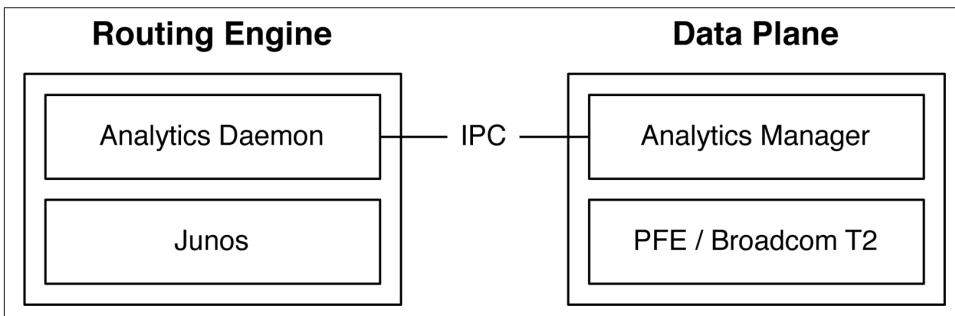

Figure 9-4. Analytics daemon and analytics manager overview
Both analyticsd (AD) and AM work as a team to obtain real-time data from the PFE and export it to remote collectors, as shown in Figure 9-4.